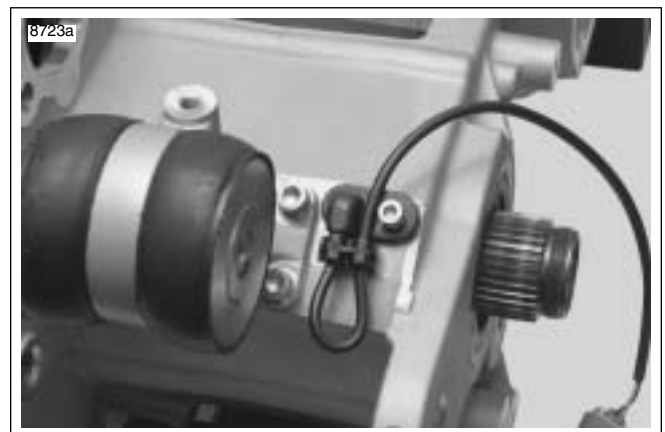

Figure 6-51. Rear Isolator Assembly
14. See Figure 6-51. Remove rear isolator assembly by removing the forward two fasteners first and then the two rear fasteners (re-install with **new** fasteners).